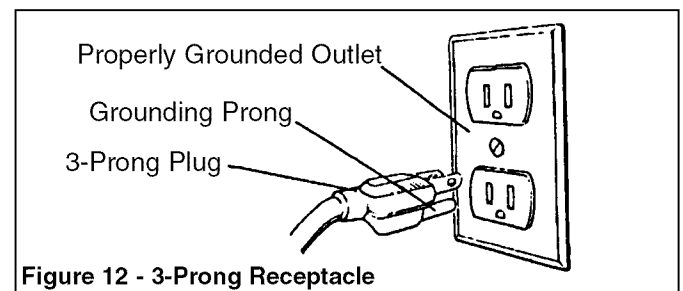

Figure 12 - 3-Prong Receptacle
- Place the wrench on the hex bolt and adjust until the table is square to the saw blade (see Figure 12).
- Grounding plug should be plugged directly into a properly installed and grounded 3-prong grounding-type receptacle, as shown (Figure 12).